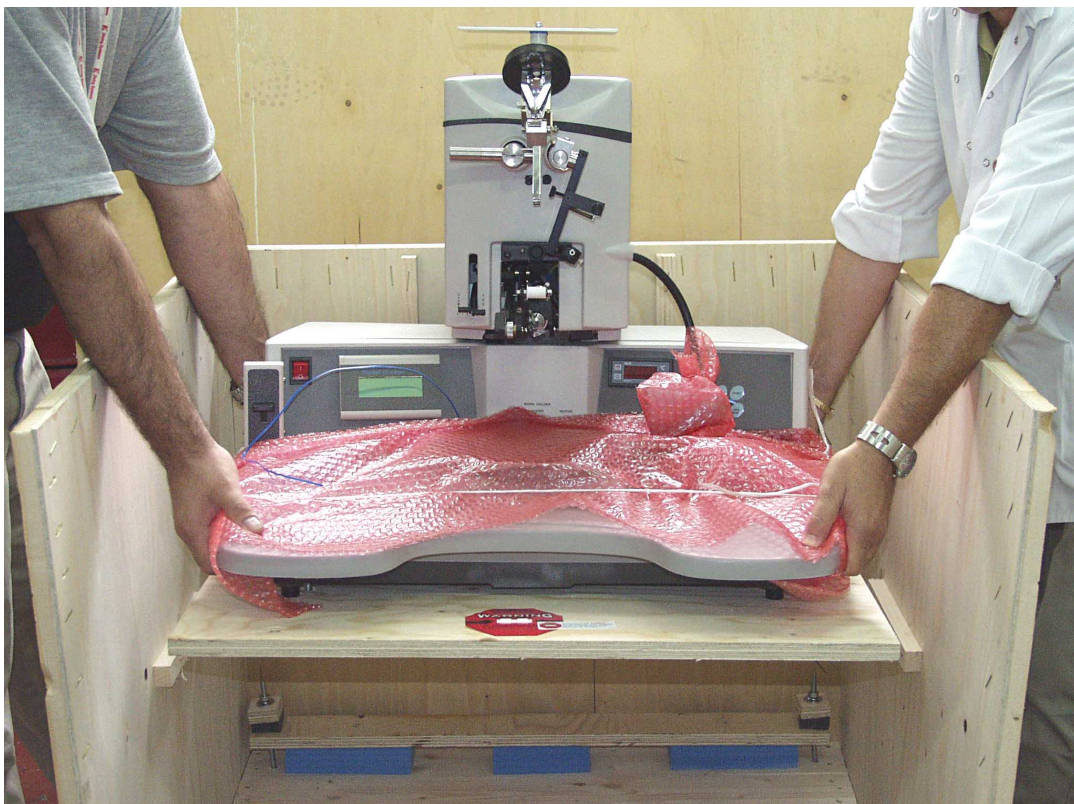

Figure 2-5: Taking the K&S 4500 Digital Wire Bonder Out of the Shipping Carton
- 8 Lift the bonder with its attached shipping board out of the crate and place it on a cart. This step requires two people (see Figure 2-5).
Caution: Grasp the bonder lower casting. Do not grasp the covers (see Figure 2-5).